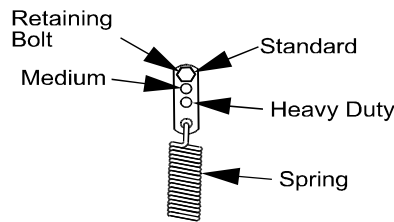

FIG. 18
- b) For a heavier drive setting, relocate the spring anchor links to either the “medium” or “heavy duty” positions as shown in Figure 18. The spring anchor links are attached to the upper rear corner of the hydro drive shields on the left and right hand sides of the machine.